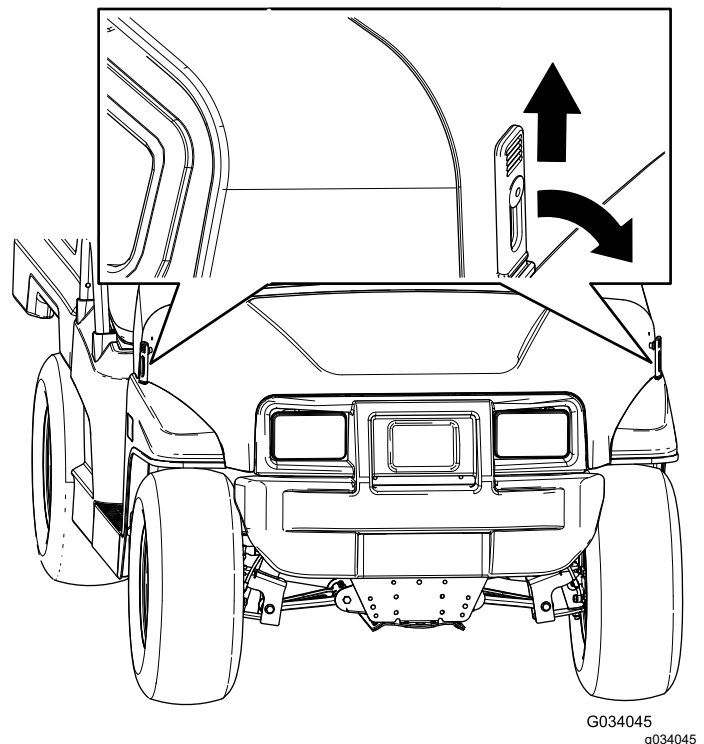

Figure 25
1. Lift up the handle of the rubber latches on each side of the hood (Figure 25).
2. Secure the hood by aligning the rubber latches onto the latch anchors on each side of the hood (Figure 25).